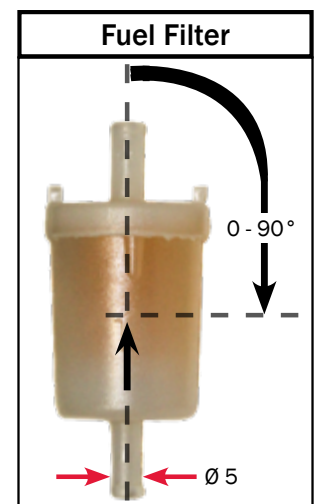

Figure 19
- The filter can be mounted vertically or horizontally; note the installation position and direction of flow (see Figure 19).